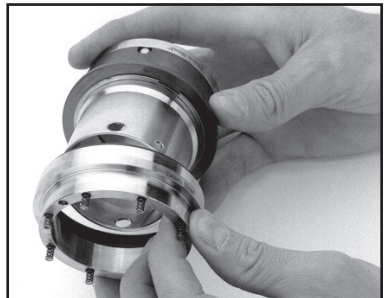

Figure 14
4.3.6 **Install new springs** into the stator, **clean the stator face** with alcohol and place it down onto the rotor. Be sure the springs are placed in the proper (deeper) holes. See Figure 14.